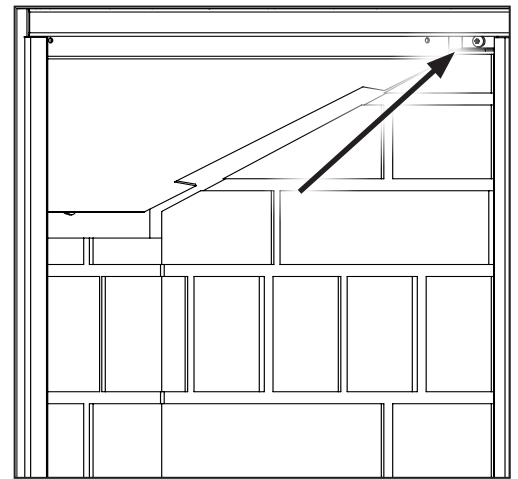

Figure 43. Top Panel Retainers.
3. Next, remove the top brick panel retainers on each side as shown in Figure 43 using a T20 screwdriver.